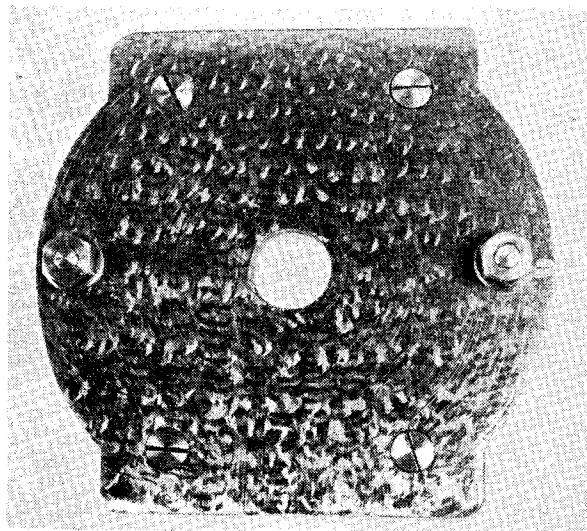
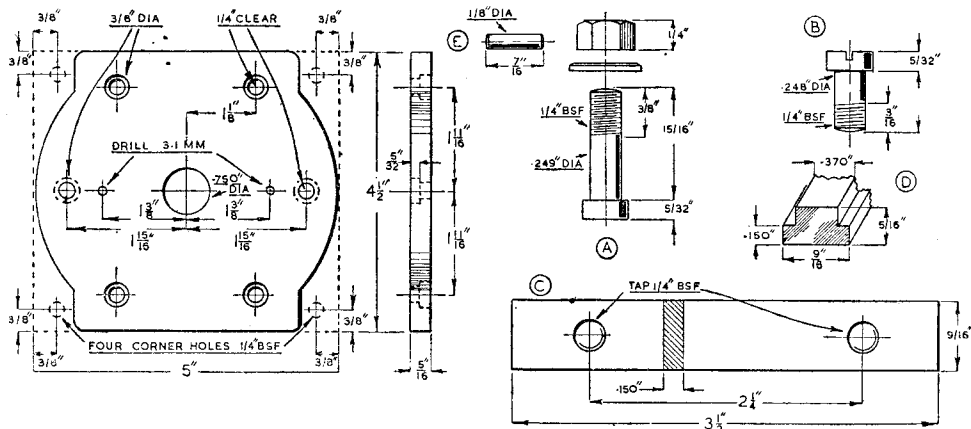

Fig. 9. The upper surface of the soleplate
Fig. 11. Working drawings of the soleplate and its parts
Reference to Figs. 9 and 10 should make clear the method of construction, and the dimensioned working drawings are given in Fig. 11.
The pin-drill is next employed to form the  $\frac{3}{8}$  in. diameter recesses a few thousandths of an inch in excess of  $5/32$  in. deep to receive all six screw heads. The four corner holes for the screws (B), Fig. 11, fixing the plate to the cross-slide, are opened out to  $\frac{1}{4}$  in. clearing size, but the two remaining holes for the top-slide fixing bolts, (A), are drilled with a letter D-drill and
then partially reamed to make the screws a press fit in the plate. The two sets of fixing screws are turned in accordance with the drawings (A) and (B), Fig. 11.
form shown in Fig. 11 (D), and a greater length of thread engagement will then be obtained.